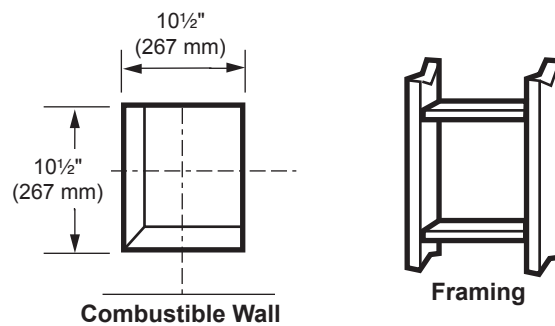

Figure 25 -
Combustible Exterior Walls: Cut a 10½"H x 10½"W square hole through the exterior wall frame. *Figure 25*
2. The center of the hole should align with the center line of the horizontal rigid vent pipe end. Allow 1/4" minimum rise per foot. *Figure 25*